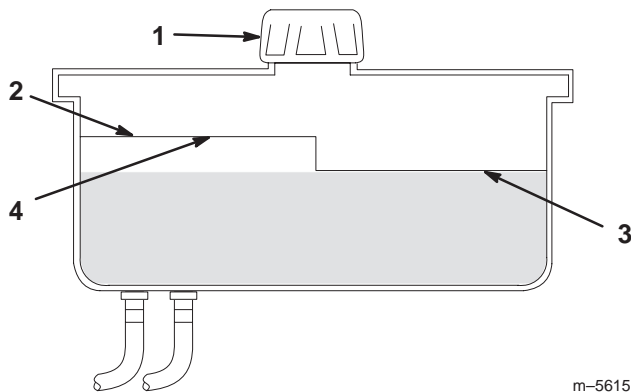

Figure 43
2. Clean the area around the filler neck of the hydraulic tank (Fig. 43).
3. Remove the cap from the filler neck. Look inside to check if there is fluid in the reservoir (Fig. 43).
Note: The fluid level should be to the top of the **hot** level of the baffle, when the fluid is warm (Fig. 43).